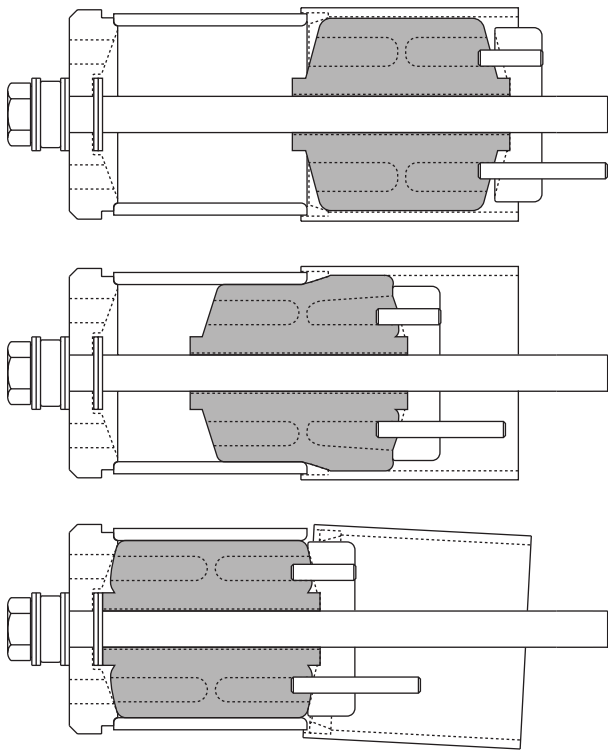

Figure 41: Typical bushing installation progression as hex head bolt is turned
**NOTE:** When the bushing is approximately halfway in the bushing tube (Figure 41), the impact wrench may slow down. After a very short time, the wrench will pick up speed again. If all procedures are followed properly, the impact wrench will install the bushing in less than one minute.